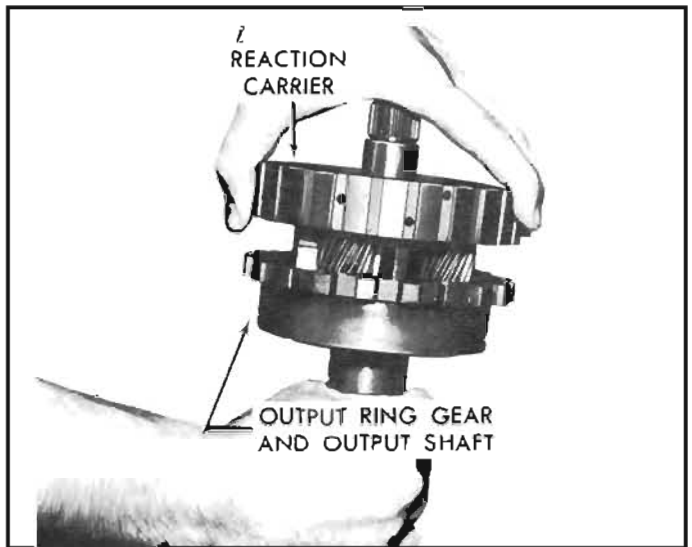

Figure 83 Reaction Carrier Installation
4. Install reaction carrier assembly into output ring gear and shaft assembly. See Figure 83.